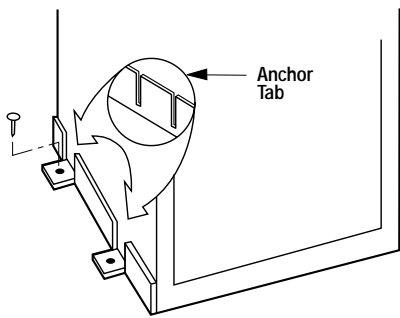

Figure 17
Step 4. The fireplace should be anchored to the floor. Bend down the four (4) anchor tabs located at the base of the fireplace and secure to the floor with 8d nails (**Figure 17**).